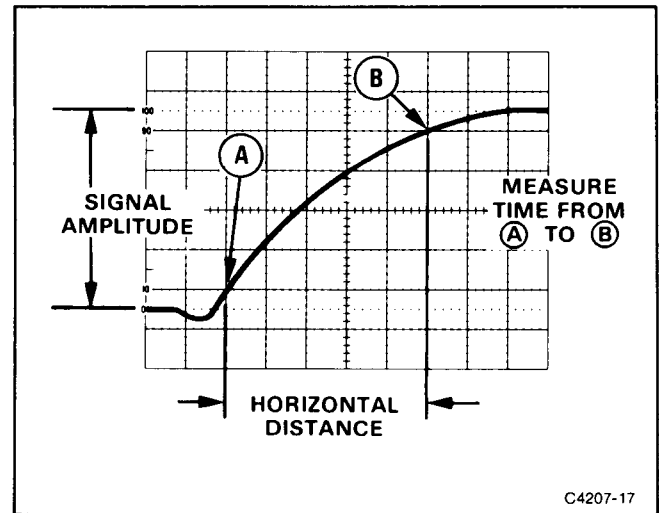

Figure 4-7. Rise time.
Rise-time measurements use the same methods as time duration, except that the measurements are made between the 10% and 90% points of the low-to-high transition of the selected waveform (see Figure 4-7). Fall time is measured between the 90% and 10% points of the high-to-low transition of the waveform.
6. Measure the horizontal distance between the 10% and 90% points (between Points A and B of Figure 4-7) and calculate the time duration using the following formula: